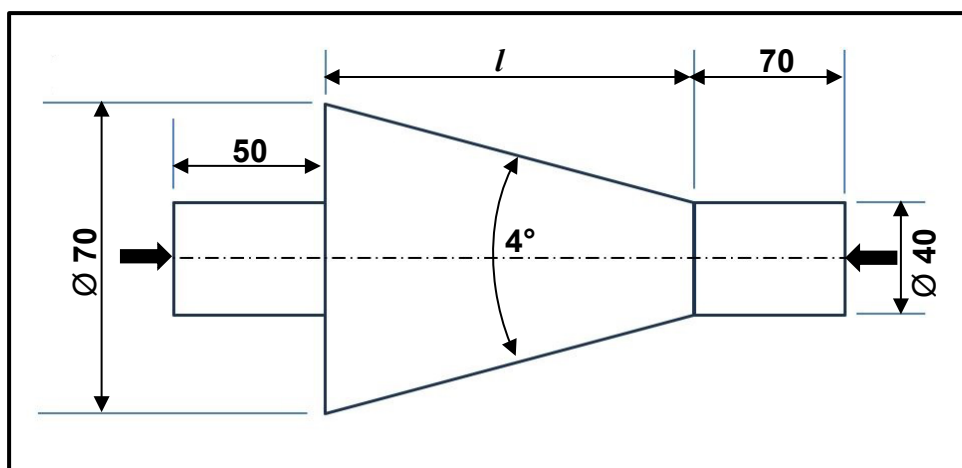

FIGURE 5.2
- 5.2 FIGURE 5.2 below shows a taper with an included angle of 4° that should be machined between centres.